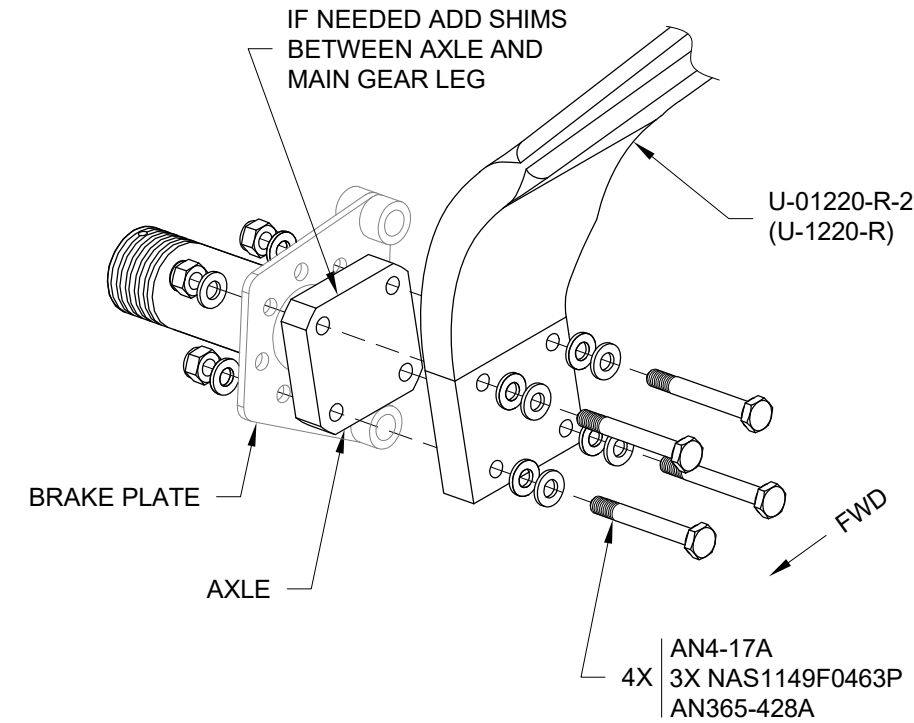

FIGURE 1:
Step 1: Bolt just the main gear axles to the U-01220-L-2 & -R-2 (or U-1220-L & -R) Main Landing Gear Legs with the provided hardware. See Figure 1.